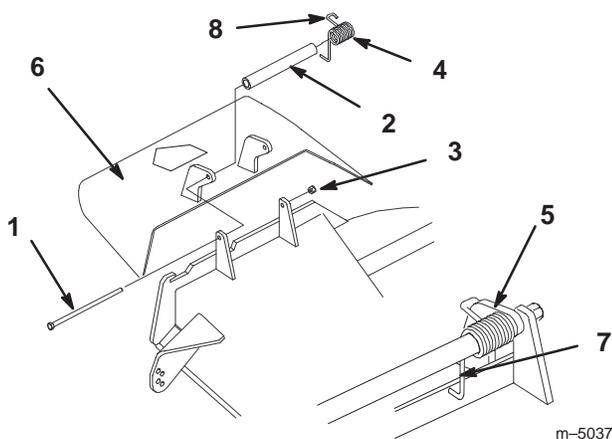

Figure 69
- Remove the locknut, bolt, spring and spacer holding the deflector to the pivot brackets (Fig. 69). Remove damaged or worn grass deflector.
Note: Make sure the L end of spring is installed behind deck edge before installing the bolt as shown in figure 69.
- Install bolt and nut. Place J hook end of spring around grass deflector (Fig. 69).